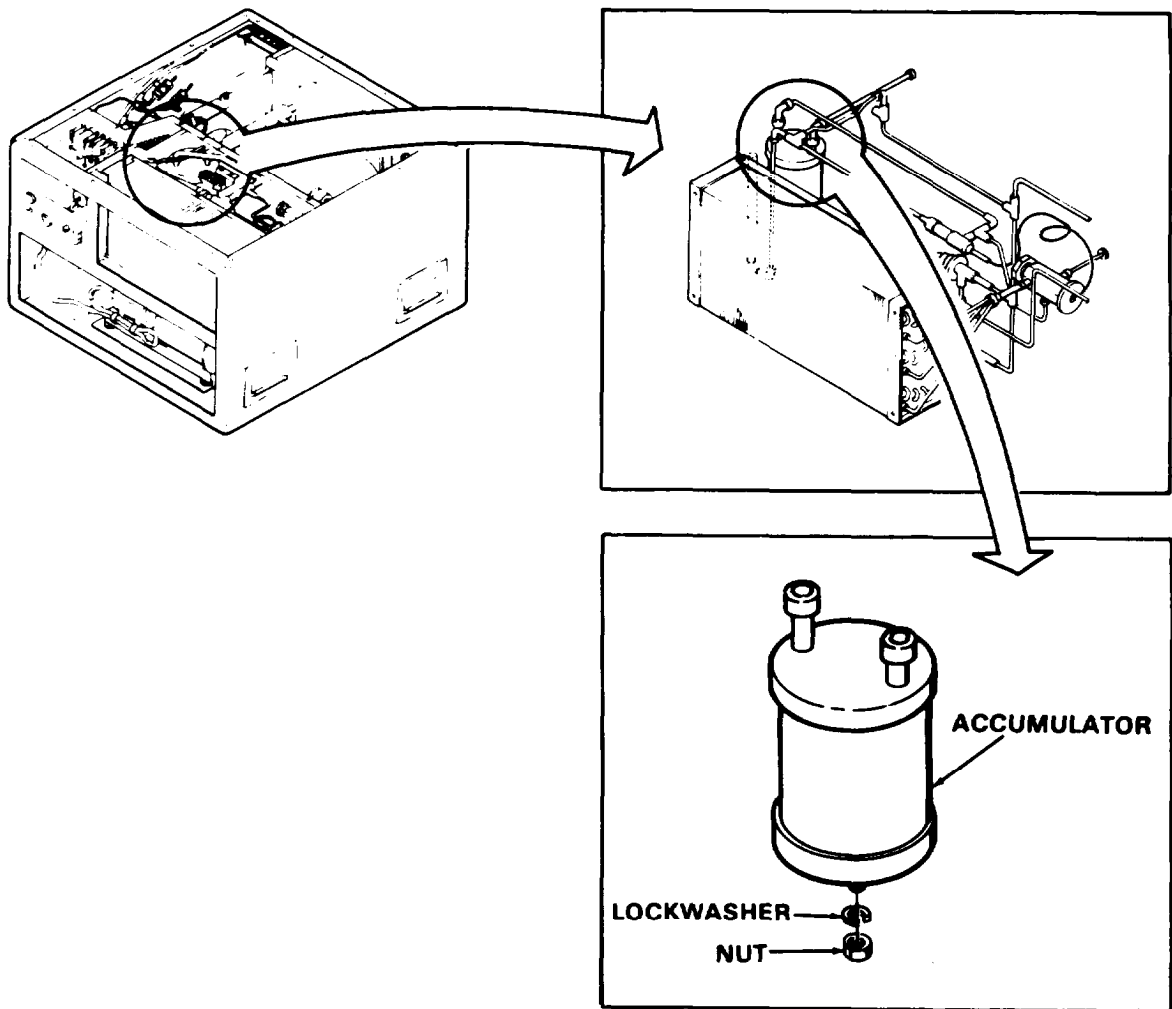

Figure 5-7. Accumulator
- (1) Refer to paragraph 6-3 and discharge the refrigerant system.
- (2) Refer to paragraph 4-18 and remove top covers.
- (3) Refer to figure 5-7 and unsolder system tubing from accumulator.
- (4) Remove two screws and washers holding accumulator bracket. Remove accumulator.
- (5) Remove nut to separate accumulator from bracket.
- (1) Mount bracket on accumulator.
- (2) Refer to figure 5-7 and install accumulator secure with washer and lock nut.
- (3) Refer to paragraph 5-7 and solder system tubing to accumulator.
- (4) Refer to paragraph 6-3 and leak test the refrigeration system.
- (5) Refer to paragraph 4-18 and install top cover.
- (6) Refer to paragraph 6-3 and purge the refrigerant system.
- (7) Refer to paragraph 6-3 and charge refrigerant system.